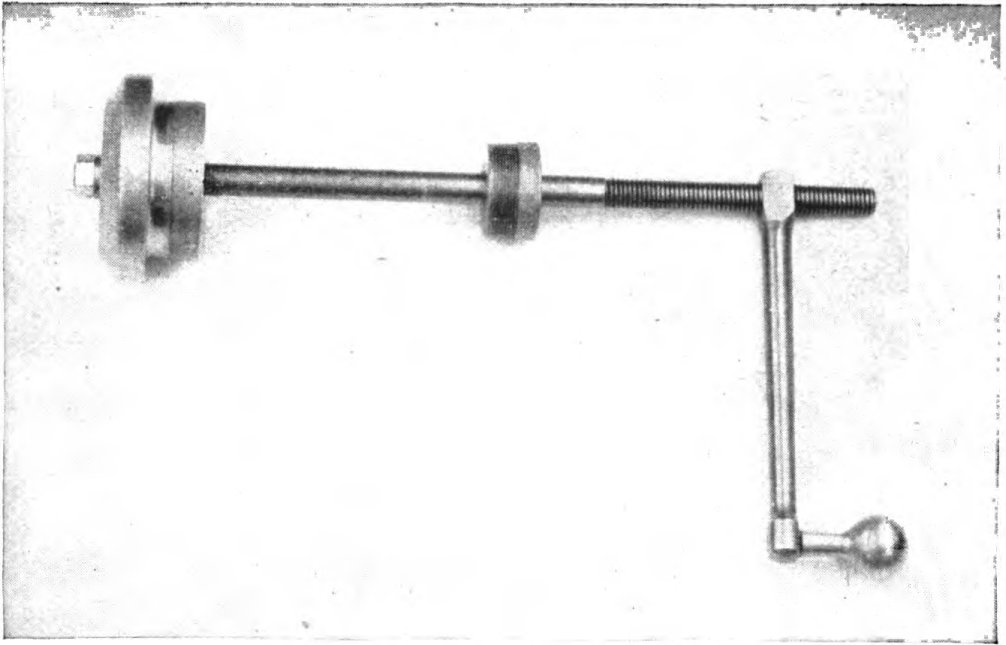

*Figure 39. Spanner wrenches.*
*a.* SPANNER WRENCHES. (1) A spanner wrench has a semicircular head on a handle. The radius of the head depends upon the part the wrench is made to fit. There are lugs or pins on the head to provide a gripping surface. A solid spanner wrench is made to fit some particular piece of equipment. An adjustable spanner wrench has a pivoted head and may be used to fit nuts of different sizes. Several different spanner wrenches are shown in figure 39.